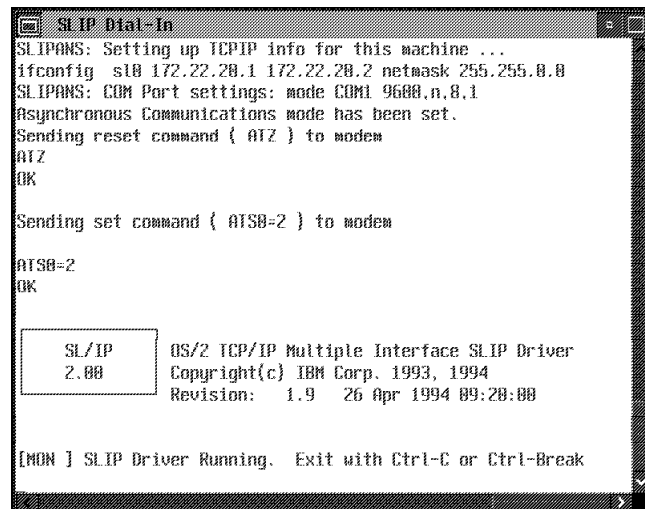

Figure 8-17. SLIP Driver Correct Status
3. \_\_\_\_ Verify that the SLIP driver is running as shown in Figure 8-17. If you do not have this message an error message is displayed (see Figure 8-18 on page 8-10). As recommended verify that the modem is properly configured and connected.